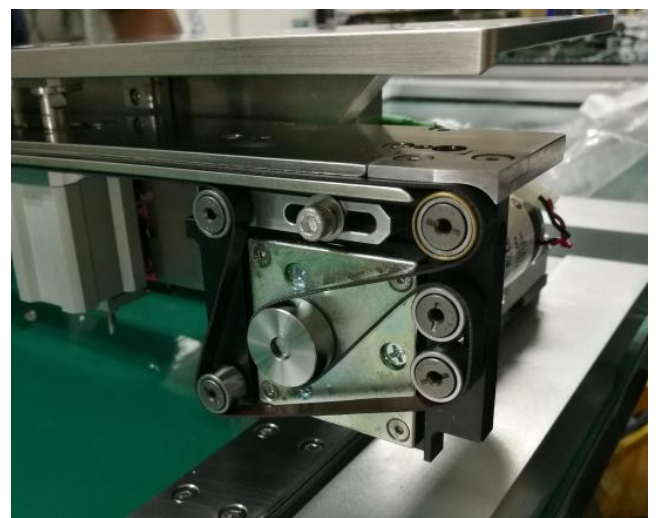

Figure 13 Adjustable Rail Belt Routing
7. May refer to below Figure 13 &14 for Fix & Adj Rail Belt Routing